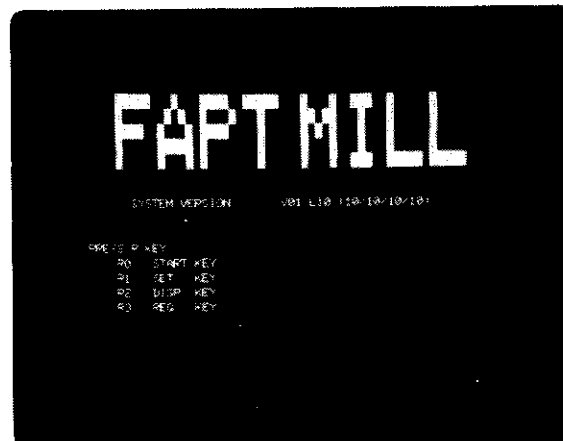

Fig. 2.5 Pattern showing the end of loading (Example of FAPT MILL)
- (1) Mount the system floppy disk on the floppy disk unit (See item 2.4.5)
- (2) Depress **LOAD** key on the keyboard. Keep depressing this **LOAD** key for 2 to 3 seconds. In order to prevent the loaded system programs from being invalidated by depressing the **LOAD** key by mistake, the **LOAD** key is designed to be effective after keeping it depressed for a certain time.
- (3) The system program is loaded. This loading time is 10 to 30 seconds according to the kinds of systems.
- (4) After loading, a pattern corresponding to the job contents is displayed on the graphic display as shown in Fig. 2.5.